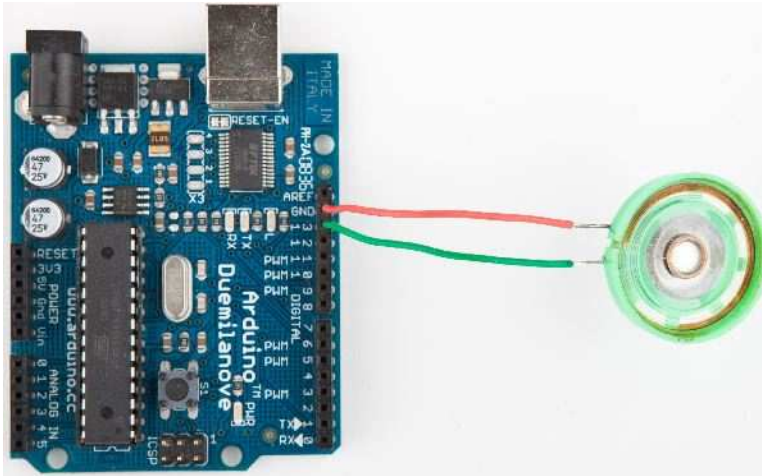

Figure 4.3: It's easy to connect a speaker to an Arduino.
- Blinking LEDs are great, but when we think of Morse code, we usually think of beeping sounds, so replace the LED with a piezo speaker, which are cheap and easy to use. Figure 4.3 shows how you connect it to an Arduino. They have a ground pin and a signal pin, so connect the speaker's ground to the Arduino's ground, and connect the signal pin to Arduino pin 13. Then replace the `output_symbol()` method with the following code: